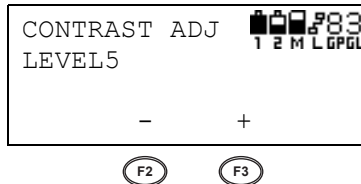

Figure 3-136. Set Contrast Level
- On the Contrast Adjustment screen, use the **F2/F3** (-/+) buttons to set the contrast level (Figure 3-136). The contrast can be set at 9 levels. See “Selecting Parameters” on page 3-10 for details on changing parameters.